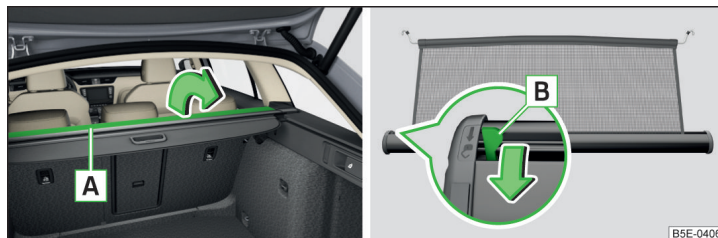

Fig. 115 Open part of the roll-up luggage compartment cover / release lever
- Fold out part of the roll-up luggage compartment cover **A** in the direction of the arrow » Fig. 115.
- Fold back part of the roll-up luggage compartment cover **A** in the opposite direction of the arrow » Fig. 115.
If the net partition blocks when pulling it out of the housing, push the release lever **B** in the direction of the arrow » Fig. 115.